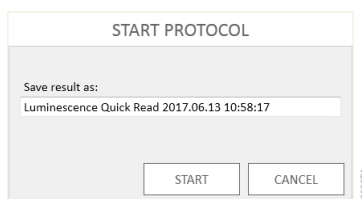

Figure 8. Save Results Window.
5. Enter the name of the result file by touching inside the text box and entering a name (Figure 8).